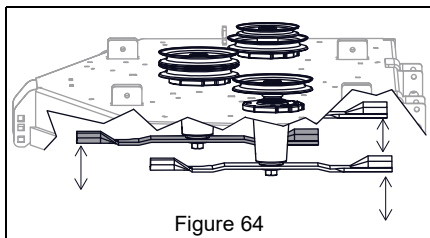

Figure 64
- Measure the distance between the ground and the cutting edge of the left and right blades. If the measurements are not within 4.7 mm (3/16") of each other, level the deck. See *Level Mower Deck* on page 39. See Figure 64.